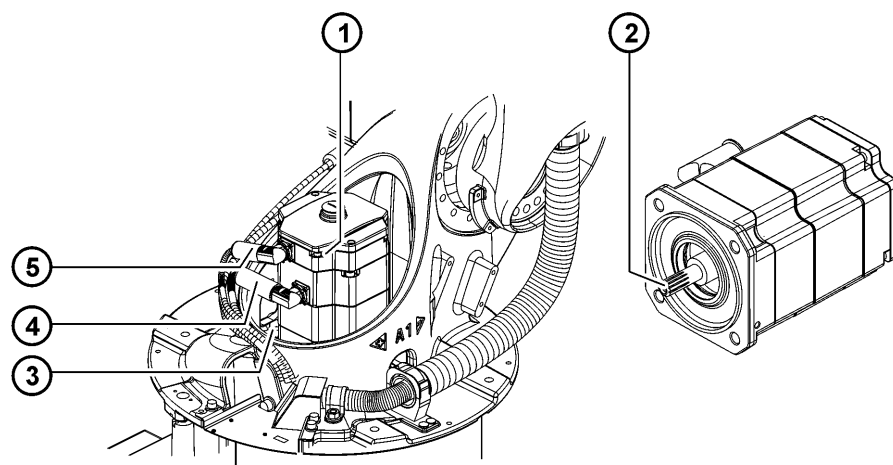

Fig. 11-1: Removal, installation of motor A1
1. Release and unplug connectors XM1 (>>> Fig. 11-1) and XP1 from motor A1.
2. Clean toothing (>>> Fig. 11-1) of motor and gear unit before installation and apply a thin but continuous coat of Microlube GL 261 grease.